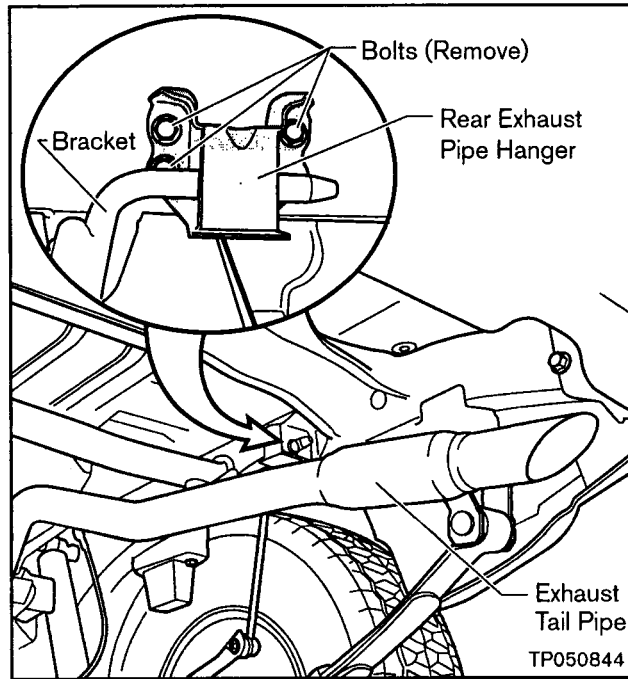

Figure B4
5. Remove three Bolts to disconnect the Rear Exhaust Pipe Hanger from the Frame (see Figure B4).